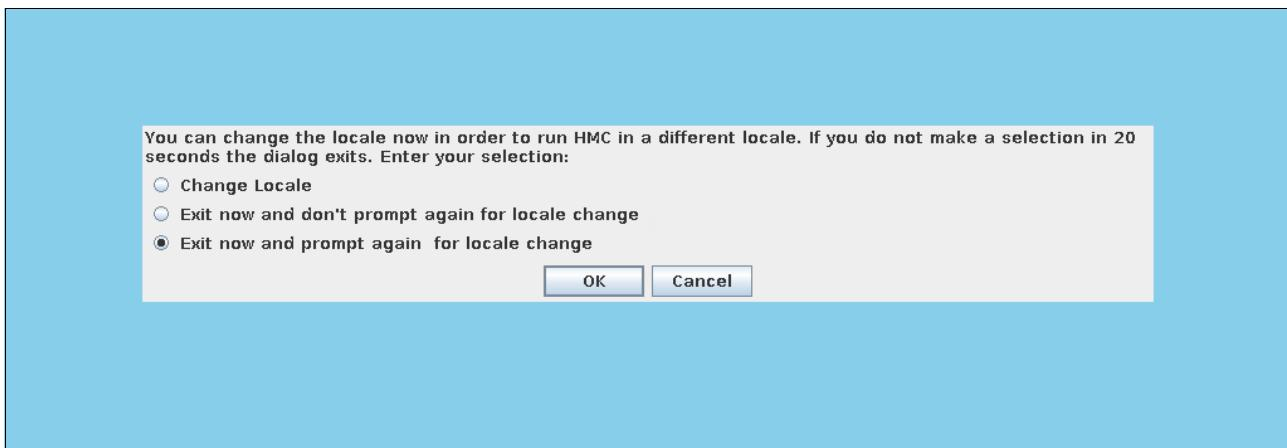

Figure 3-51 HMC locale selection
11. The HMC reboots and displays the locale selection graphical dialog box (Figure 3-51). You can now proceed with the Installation Wizard for the initial HMC configuration, and follow the process described in step 5 on page 225.